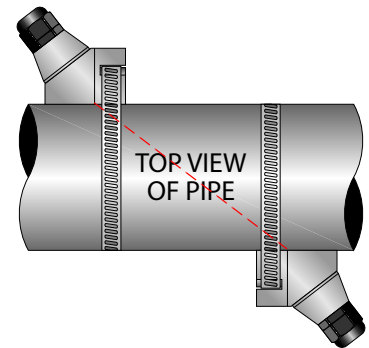

Figure 24: Z-Mount transducer placement
The DTTR, DTTN, DTTH and DTTL transducers must be properly oriented and spaced on the pipe to provide optimum reliability and performance. On horizontal pipes, when Z-Mount is required, the transducers should be mounted 180 radial degrees from one another and at least 45 degrees from the top-dead-center and bottom-dead-center of the pipe. See Figure 24 on page 25. Also see "Z-Mount Installation" on page 24. On vertical pipes the orientation is not critical.
7. Place the downstream transducer on the pipe at the calculated transducer spacing. See Figure 24. Using firm hand pressure, slowly move the transducer both towards and away from the upstream transducer while observing signal strength. Clamp the transducer at the position where the highest signal strength is observed. A signal strength percentage between 10...98 is acceptable.